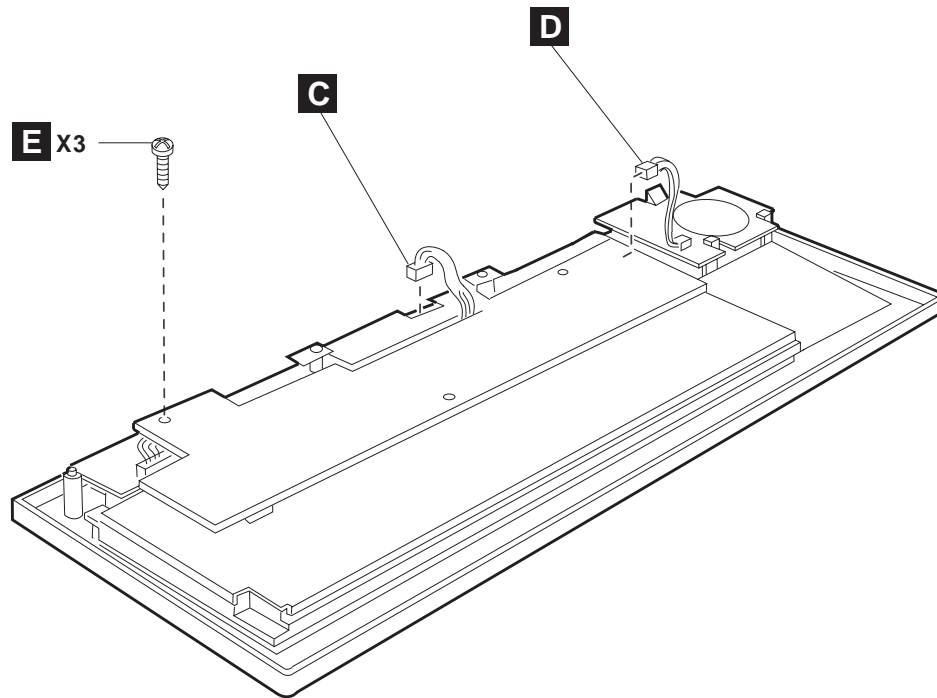

Figure 54. USB keyboard-V components – part 2
2. Disconnect the cable from the magnetic stripe reader unit (see **C** in Figure 54). Do not disconnect the cable from the logic board.
2. Disconnect the cable to the magnetic stripe reader unit at the magnetic stripe reader unit end (see **C** in Figure 54 on page 55).
2. Disconnect the cable from the speaker assembly on the logic board (JP5). See **D** in Figure 54 on page 55.